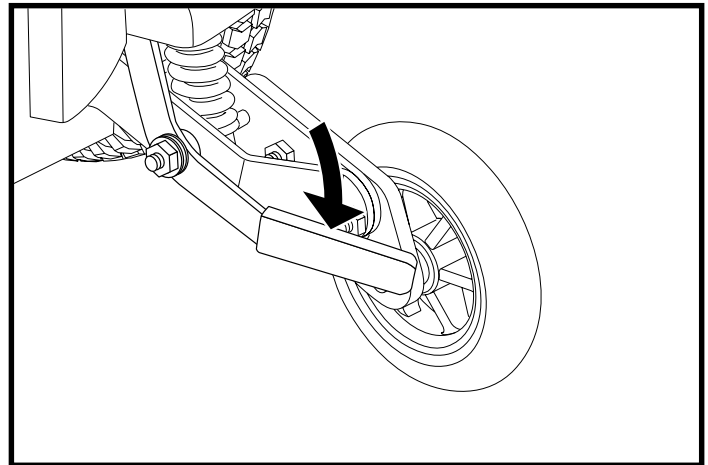

Figure 9. Drive Mode (left side shown)
2. Push down both manual freewheel levers for drive mode (drive motor engaged). See figure 9.